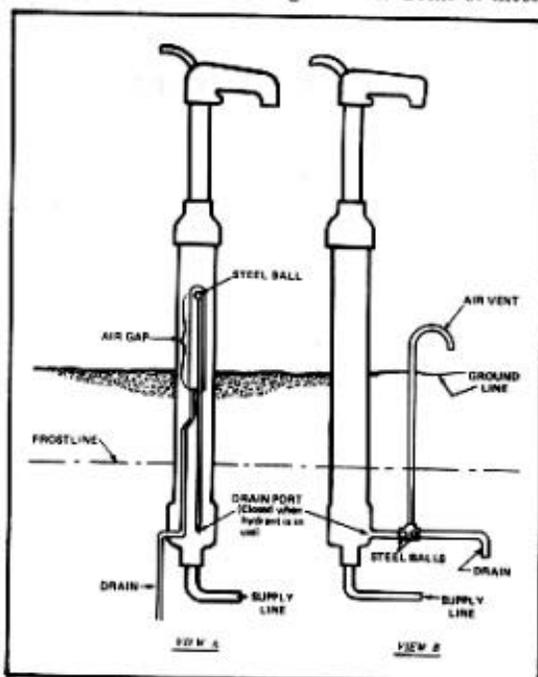
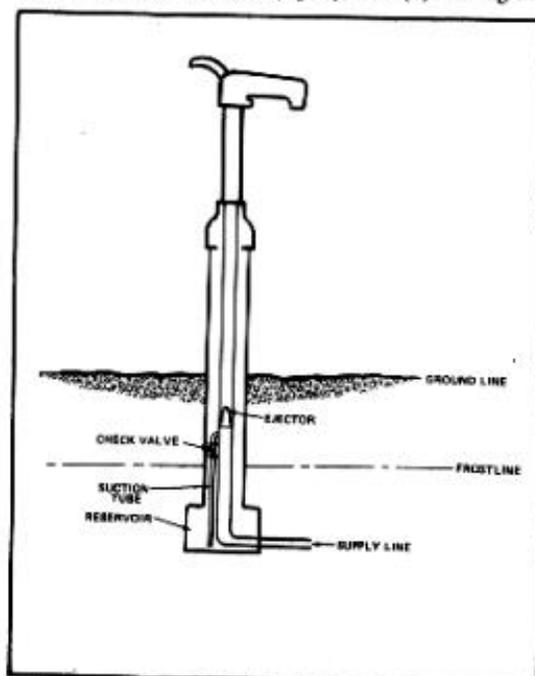

Figure 1. Hydrant that drains water in the barrel into the surrounding soil. (Clayton-Mark, View A; Modern Kelly, View B).
Figure 2. Hydrant that drains the water in the barrel into an internal reservoir.
Three methods of frostproofing the hydrants were found: (1) draining the water out of the barrel into the surrounding soil (fig. 1); (2) draining the barrel into an internal reservoir (fig. 2); and (3) heating the
The Clayton-Mark Model 5441 (fig. 1, View A) and Modern Kelly Model 6A (fig. 1, View B) units allow the water to drain into the surrounding soil. Both of these units incorporate one or two stainless steel balls, and some type of syphon-breaker to prevent the entry of contaminated water and insects into the hydrants. These balls provide extra protection in the event the level of the water around the hydrant were to rise above the drain. The pressure of the exterior water on the balls tends to force them securely against their seats. A concern with these units is that the steel balls could lose their seal because of the accumulation of materials on them, or the deterioration of the Neoprene collar on which the steel ball rides in the case of Clayton-Mark and the brass fittings in the case of Modern Kelly. Because the hydrants are sealed, visual inspection of the ball and seal is impossible without cutting the units apart. To date, no method for testing the integrity of the seals has been developed by either manufacturer. Until the effectiveness of the backflow prevention device can be conveniently checked, the possibility of water contamination (cross connection) must be considered with this type of hydrant.